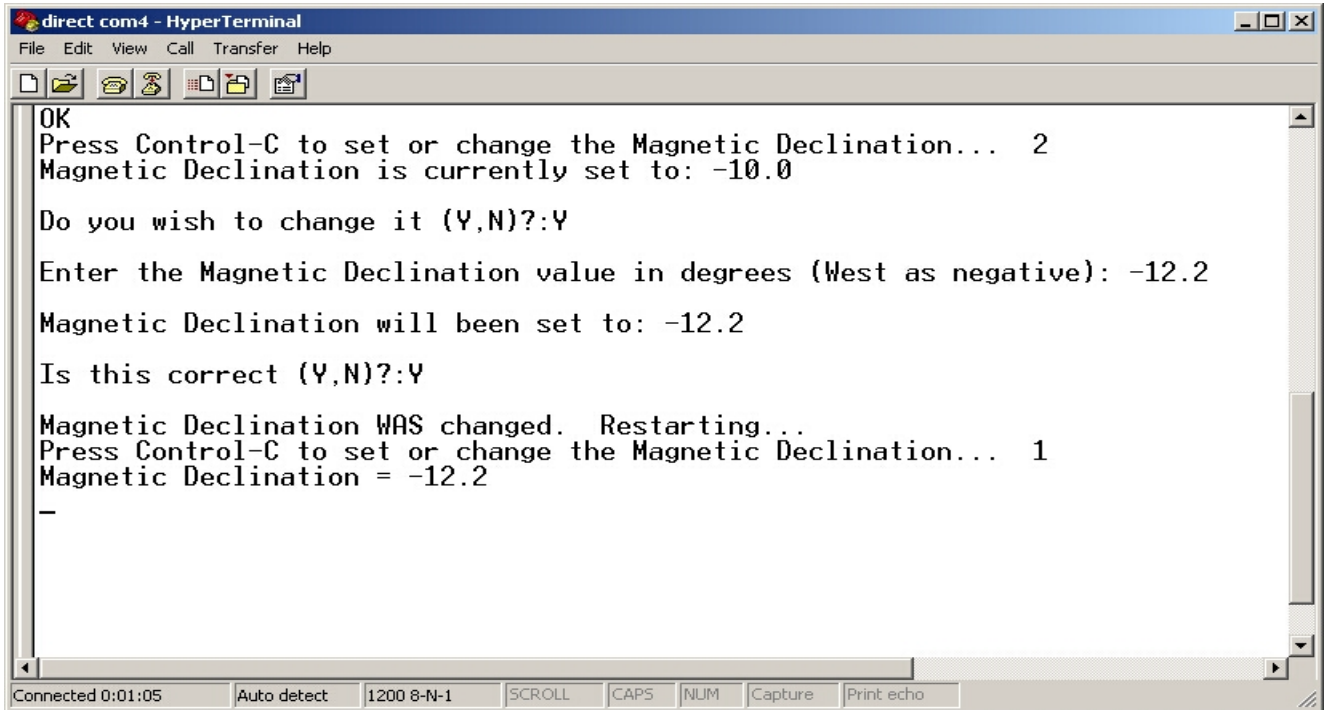

Figure 1
6.2.4 Turn on the power to the remote station and observe the screen on the PC. The declination software tells you the current setting for the declination, and gives you 10 seconds to type CTRL-C (hold the CTRL key down then hit the C key). Follow the instructions on the screen, refer to Figure 1 for an example. When the procedure is complete, the program will restart and run per normal operation. The remote sensor must be powered to transmit data, but it does not have to be on to set the magnetic declination.